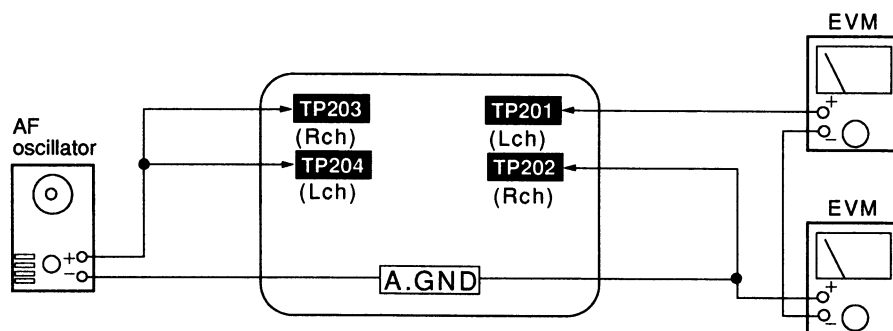

Fig. 9
1. Connect the measuring instrument as shown in Fig. 9.